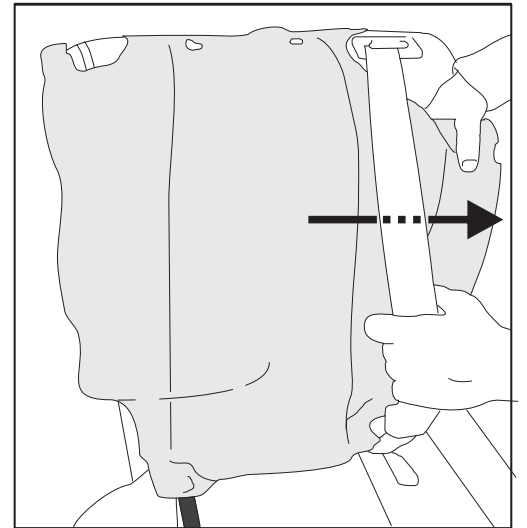

Fig. 2
2. Tilt seat backrest forward. Place backrest cover over the seat backrest, feeding through the middle seat belt. (Fig. 2)